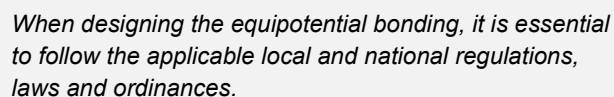
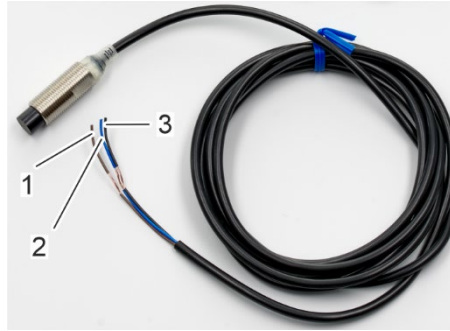

Fig. 102: Terminals clock sensor
Fig. 103: Clock sensor cable
21. Insert the wires of the clock sensor (Fig. 103/1-3) through the cable entry (Fig. 102/3) into the rotor cleaner drive.
22. Connect the blue wire (Fig. 103/2) to terminal 5 (Fig. 102/1, GND).
Connect the brown wire (Fig. 103/1) to terminal 6 (Fig. 102/2, +12V).
Connect the black wire (Fig. 103/3) to terminal 7 (Fig. 102/4, DI3).